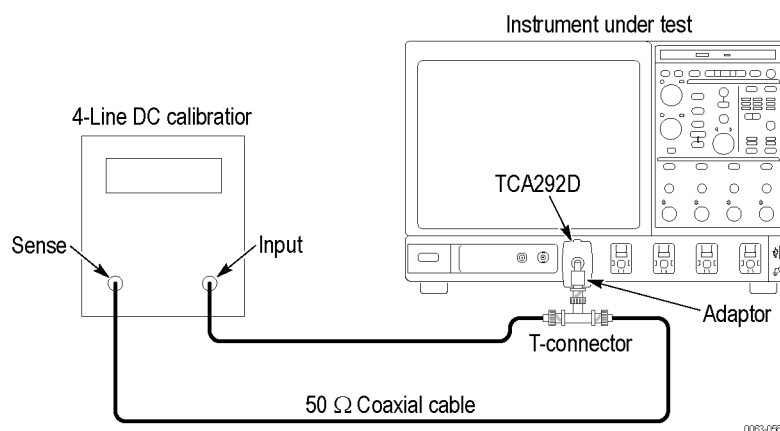

Figure 8: DC voltage accuracy test hookup, >20 GHz models
- Connect the output of a DC calibration generator. (See Figure 8: DC voltage accuracy test hookup, >20 GHz models on page 177.)